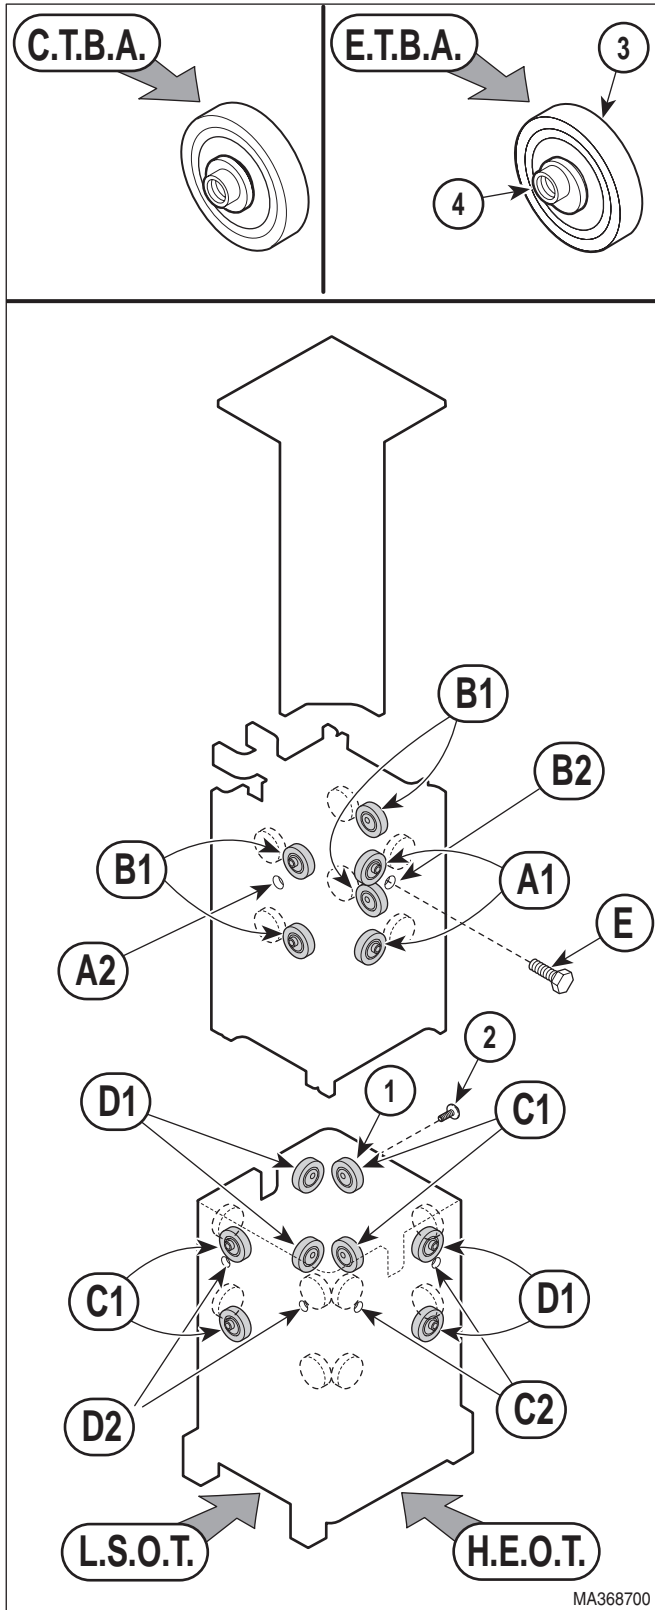

Figure 4-30. Eccentric Bearings Adjustment
- (6) Run TABLE UP and TABLE DOWN function while observing all eccentric bearings (1, Figure 4-30).
- (7) Note which eccentric bearings (1) do not rotate during entire movement of column assembly; these are the bearings which need adjusted.